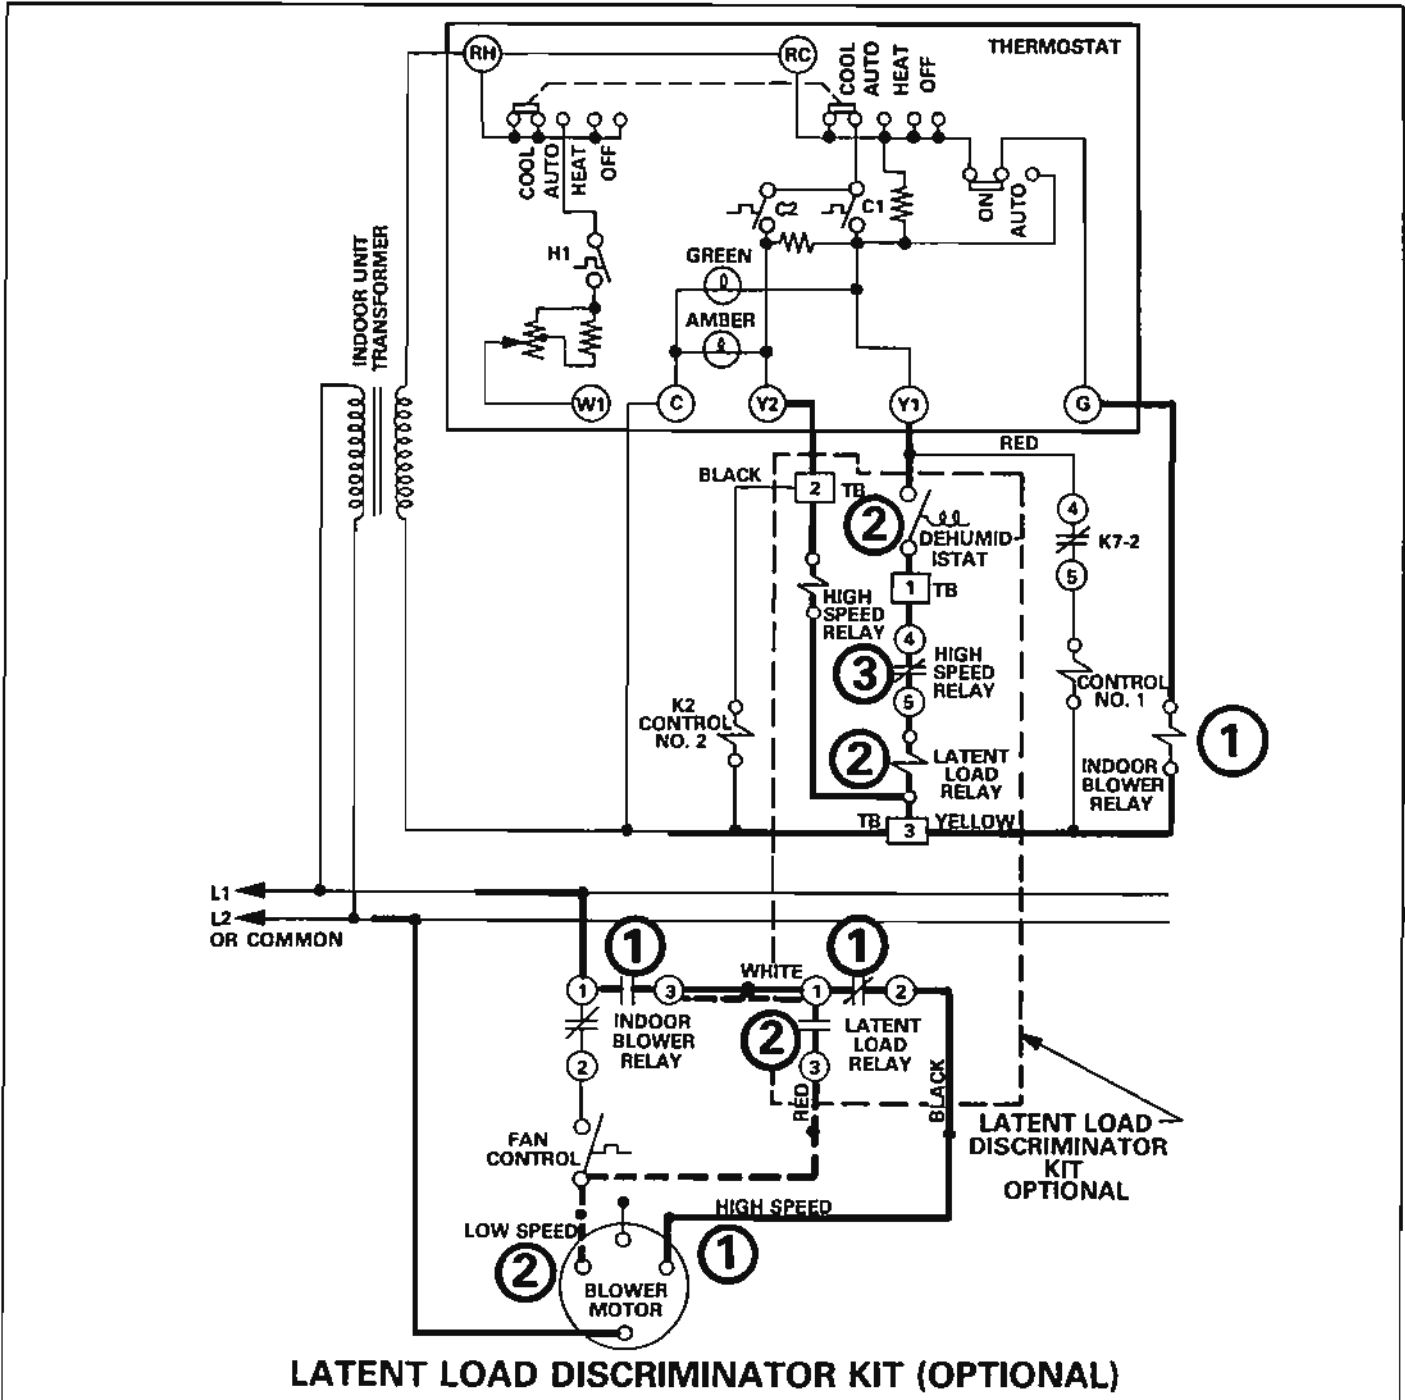

FIGURE 22
- A - Latent Load Discriminator Kit (Figure 22)
### A - Latent Load Discriminator Kit (Optional) (Figure 22)